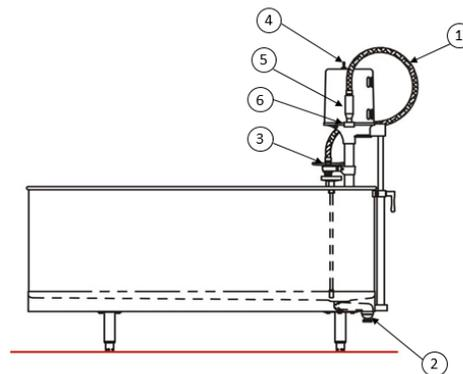
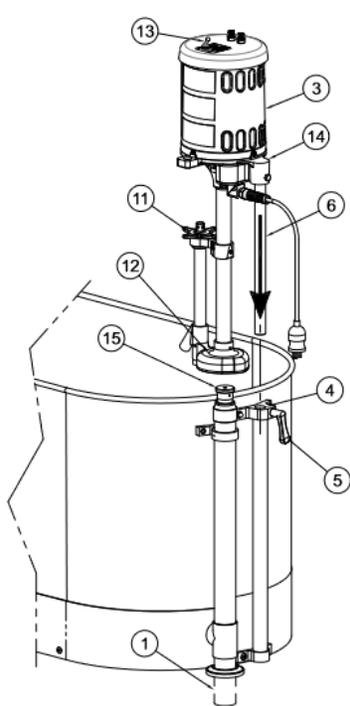
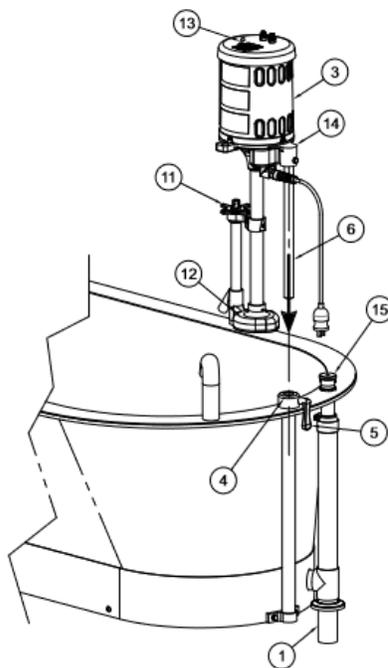

Figure 7: Draining the tub on the -SL model
Figure 8: -S model with standard drain and overflow
Figure 9: SB-100-S with standard drain and overflow
2. **-SL models w/o separate drain pump** (Figure 7):
- a. Either open drain valve (2) and drain to floor or
- b. Lift discharge nozzle (5) from storage socket (6) and place in sink.
- c. Turn pressure control valve handle (3) fully counterclockwise. This diverts water to the hose (1).
- d. Place and hold discharge nozzle (5) into sink then turn the turbine power switch (4) on to start draining to sink.
- e. When water stops discharging from the nozzle, turn the turbine power switch (4) off.
- f. Drain remaining water using drain valve (2) or by using a dry sponge.
- a. Standard drain and overflow (Figure 8 and Figure 9): Lift combination drain and overflow assembly handle (15).